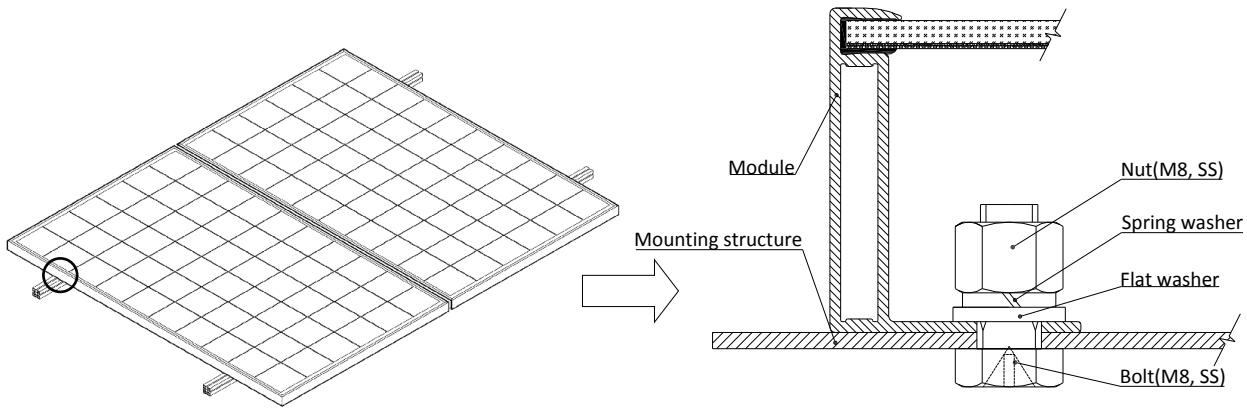

figure1
- Mounting hole system: use corrosion free M8 bolt, module can be installed on the support frame through the installation holes on its own frame, show in figure1